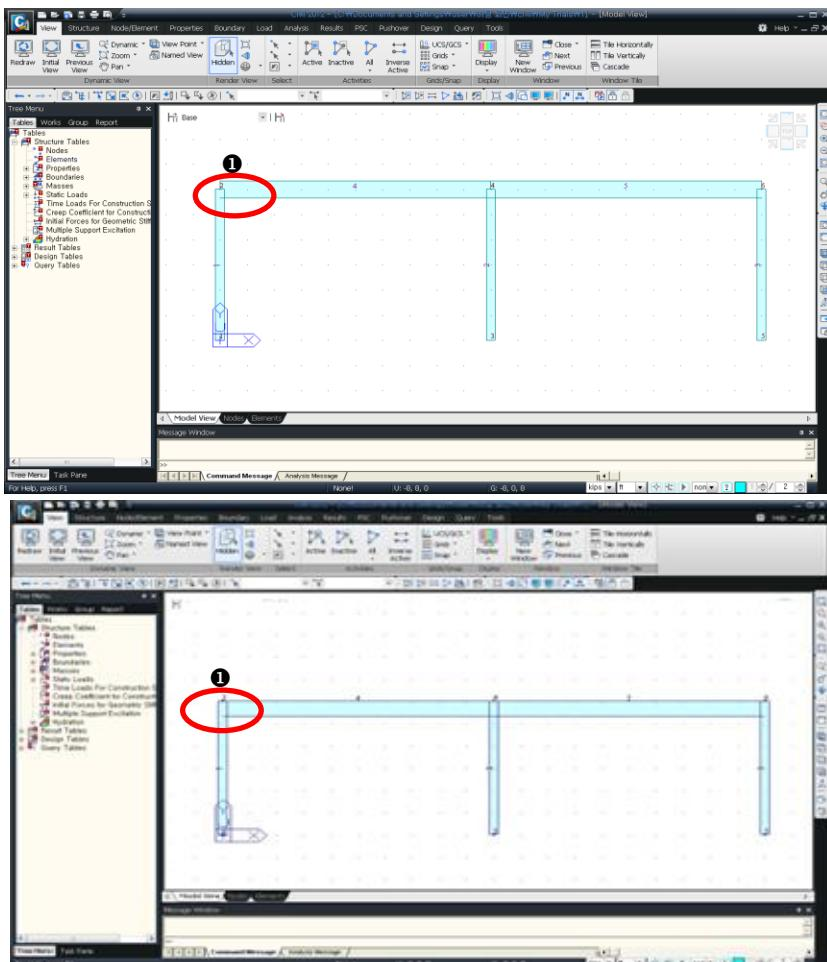

Figure 1.9 Generation of 2-D Frame
- Check () Align Top of Beam Section with Center Line (X-Y Plane) for Display in Model> Structure Type of Main Menu. Then, the effect of the beam/column panel zone will appear as ① in the bottom of Fig.1.9.